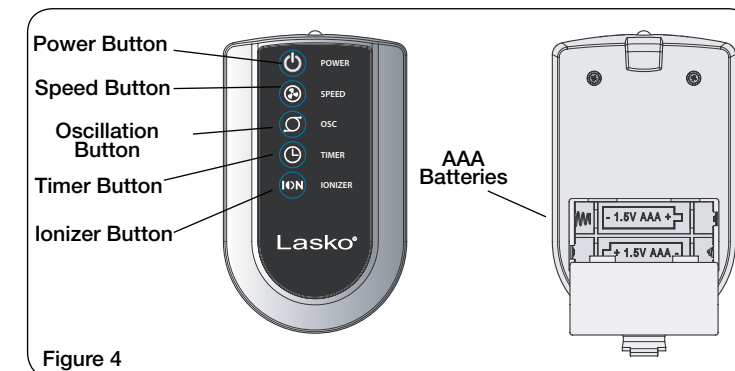

Figure 4
This Fan may be operated by the Manual Controls located on front of the unit or by the Remote Control (shown in Figure 4).
1. Install batteries (not supplied) as shown in Figure 4. The battery is size "AAA".